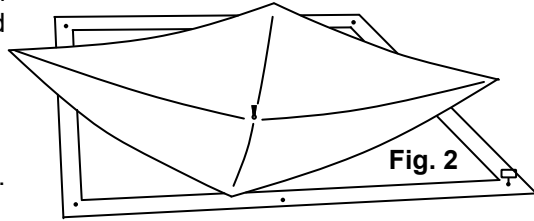

Fig. 2
2) Unfold tent and screw in ice anchor at one corner eyelet. (Fig. 2)